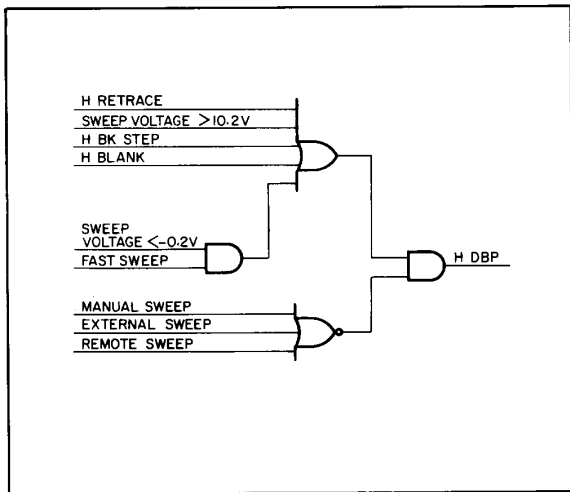

Figure 8-12. Display Blanking Pulse Logic
**Display Blanking.** (See Figure 8-12.) The CRT display is blanked whenever the H DBP line from the Blanking/Penlift circuit goes high. This occurs under one or more of the following conditions: